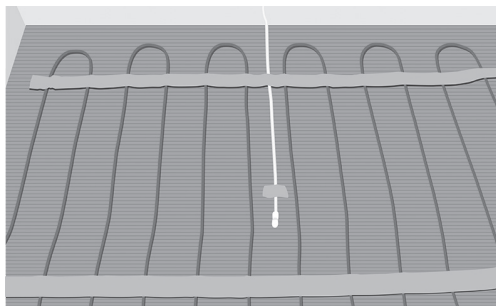

Fig. 9. Place conduit pipe/sensor between two cables
12. Place and fix conduit pipe or floor sensor if no conduit pipe is installed. Seal the end of the conduit pipe. Make sure to position the pipe/sensor between two heating cables (Fig. 9).